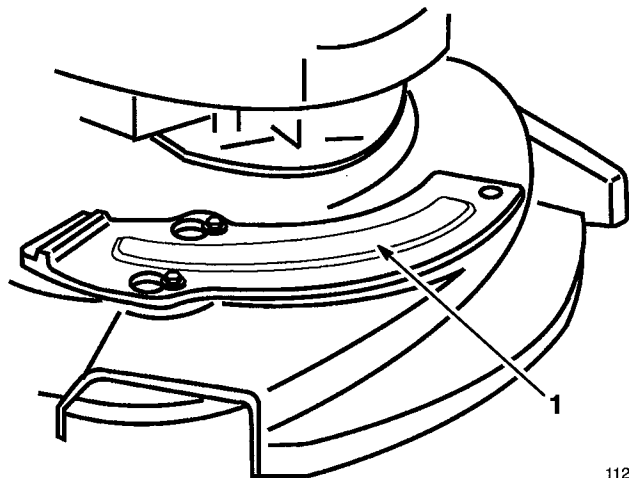

Figure 45
2. Insert mulch plate into housing opening (Fig. 45).